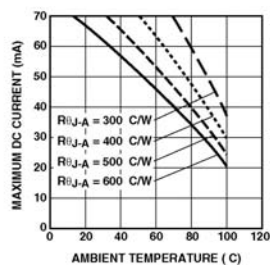

Figure 4a. HPWA-XX00 Maximum DC Forward Current vs. Ambient Temperature.
- De-rate as shown in Figures 4a, 4b and 4c.